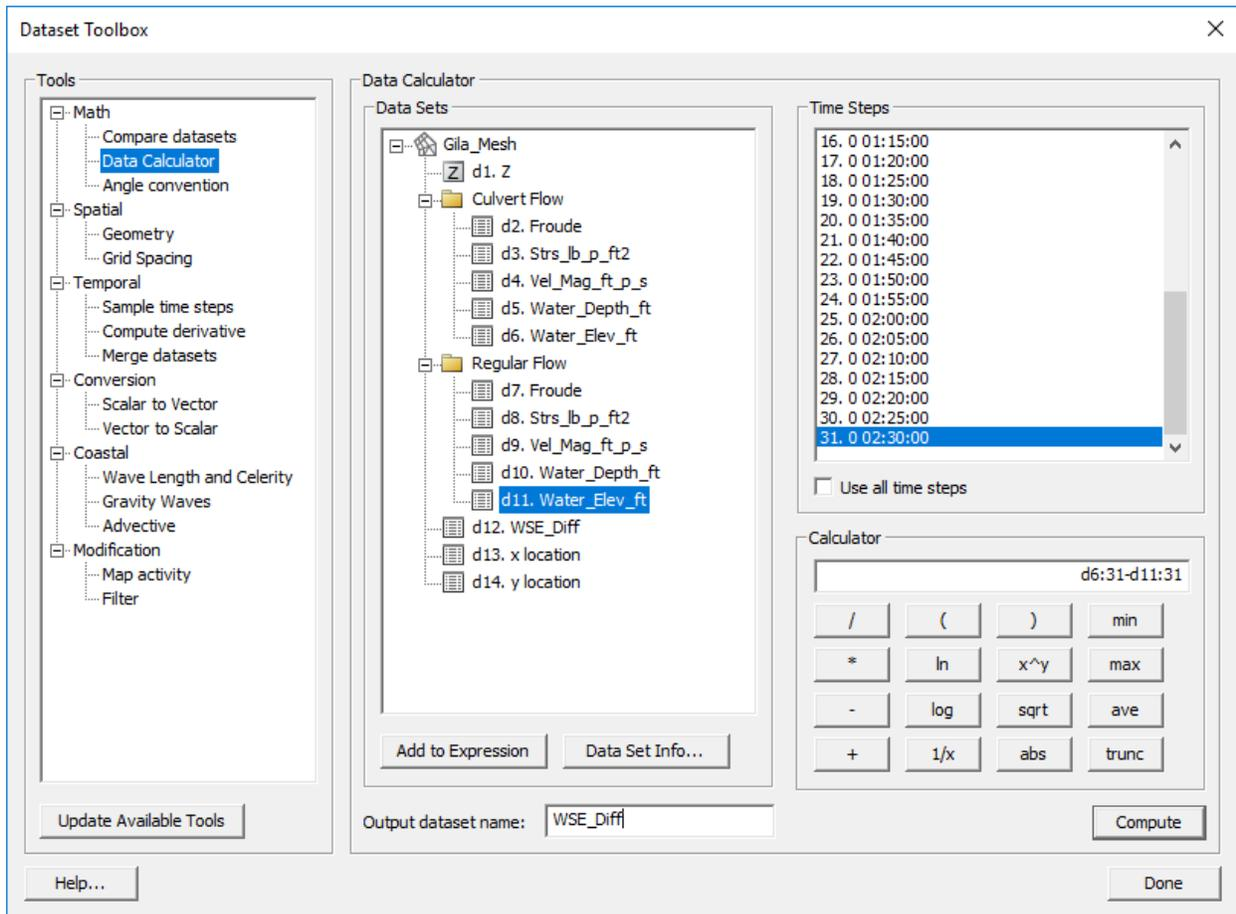

Figure 7 Data Calculator Expression
10. Specify the name of the dataset as “WSE\_Diff” in the *Output dataset name* box. The window should look like Figure 7.